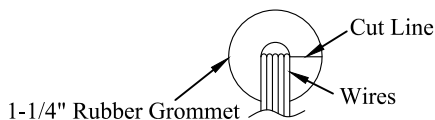

Figure 20: Assembled grommet.
7. Cut each 1-1/4" grommet from the inner hole outward (Figure 20).
8. Place each 1-1/4" grommet around wires (Figure 20).